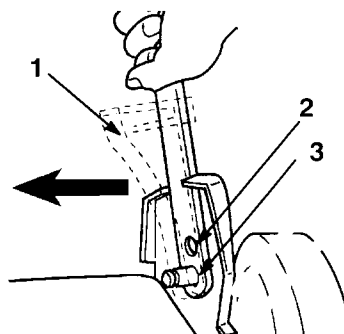

Figure 3
The handle has two height settings: high and low (Fig. 3). Choose a handle height setting that is most comfortable for you.
2. Position the handle and cable anchor over the pins at the desired height (Fig. 3).